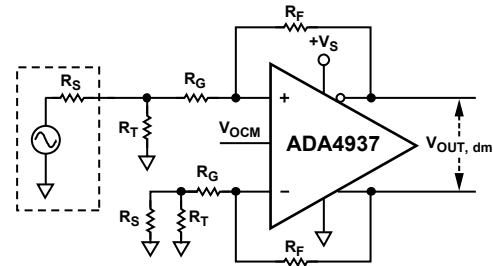

Figure 52. ADA4937 Configured for Unbalanced (Single-Ended) Input
For an unbalanced, single-ended input signal (see Figure 52), the input impedance is
**Table 11. Single-Ended Ground-Referenced Input, DC-Coupled, RS = 50 Ω, RL = 1 kΩ; See Figure 52**